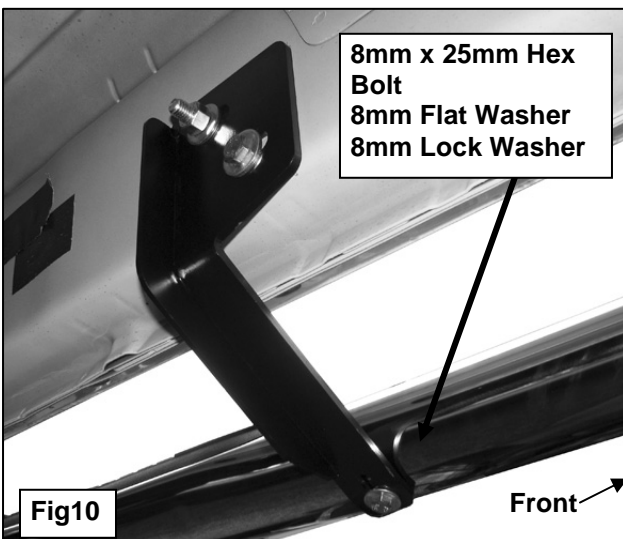

Fig 10
12. Line up the Center Mounting Bracket with the threaded insert in the Sidebar. Insert (1) 8mm x 25mm Hex Bolt, (1) 8mm Lock Washer and (1) 8mm Flat Washer through the Center Bracket and into the threaded insert in the Sidebar. Slowly tighten the Mounting Hardware, **(Figure 10)**.